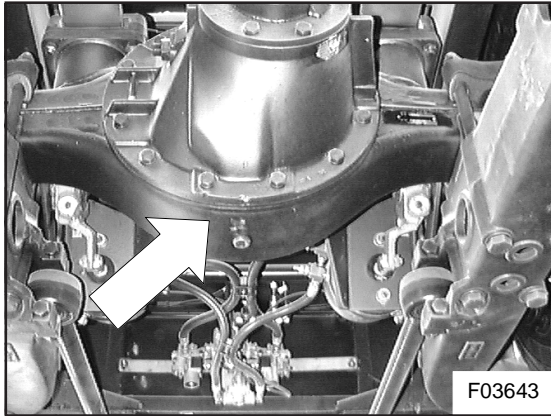

Figure 7: Drive axle differential jacking point
- Drive axle differential housing (see Figure 7)